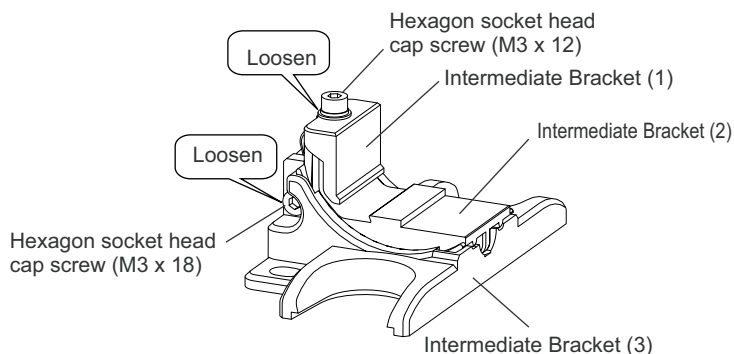

Figure 6
1. Loosen the hexagon socket head cap screws (M3 x 18) of Intermediate Bracket (3) and change the direction of Intermediate Bracket (2) according to its mounting direction. (Figure 6 and 7)